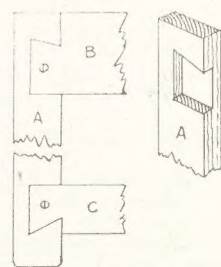

Fig. 2—Detail of rail joints
The top and bottom rails are halved and dovetailed into the side rails, and these joints glued and screwed. The manner of setting out the dovetails is shown in the detail Fig. 2 and the sketch alongside it. The tenons on the rails (B) and (C) can be cut with the fretsaw, while the recesses to take them are cut down with a ¼in. chisel.